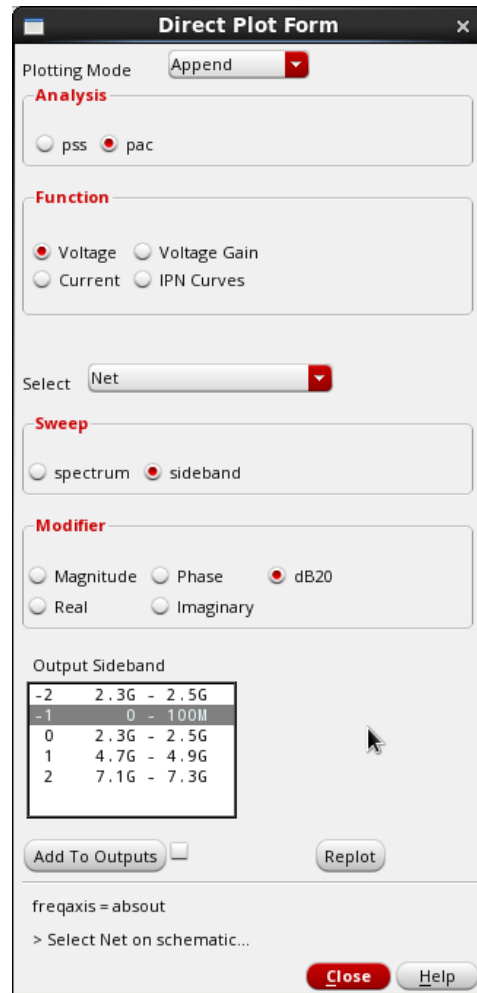

Fig. 14
- Plot the conversion gain from Results/Direct Plot/Main form/PAC/Voltage as illustrated in Fig. 14.